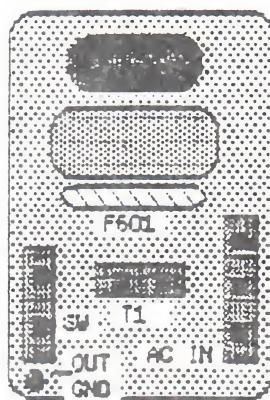

Figure 2
2. Remove the three plugs from the filter board, AC IN, Tl and SW (see Figure 2).